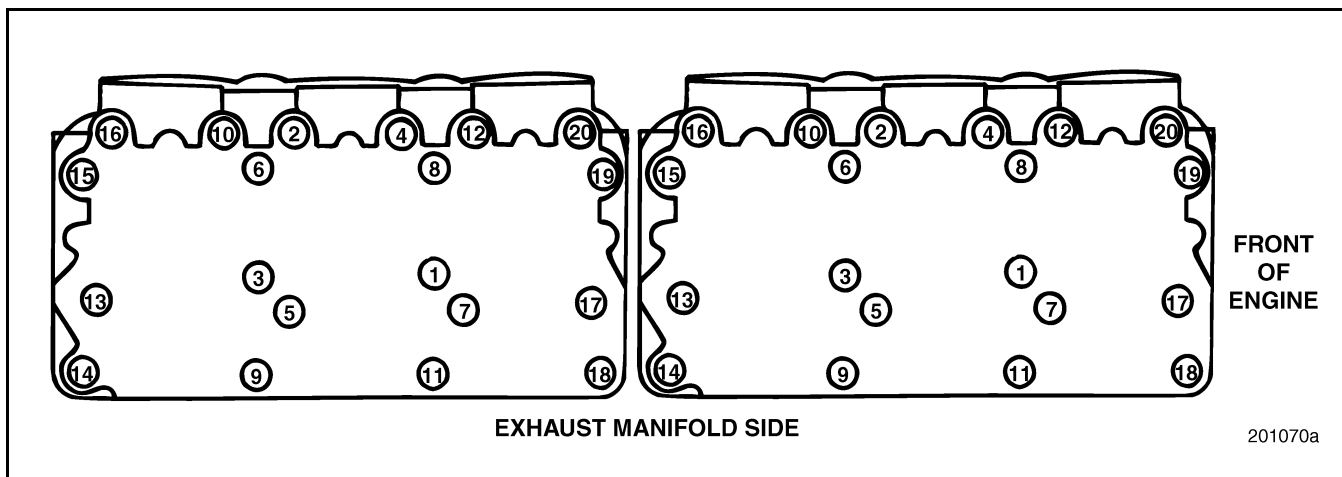

Figure 277 — Head Bolt Torque Sequence Chart
7. Oil all cylinder head capscrew bosses, capscrew threads and washers with engine oil prior to assembly. Do not oil threads in cylinder block. Using torque wrench J 24407, or equivalent, tighten all cylinder head mounting capscrews to specification in three stages as listed below. Refer to Figure 277 for the tightening sequence.